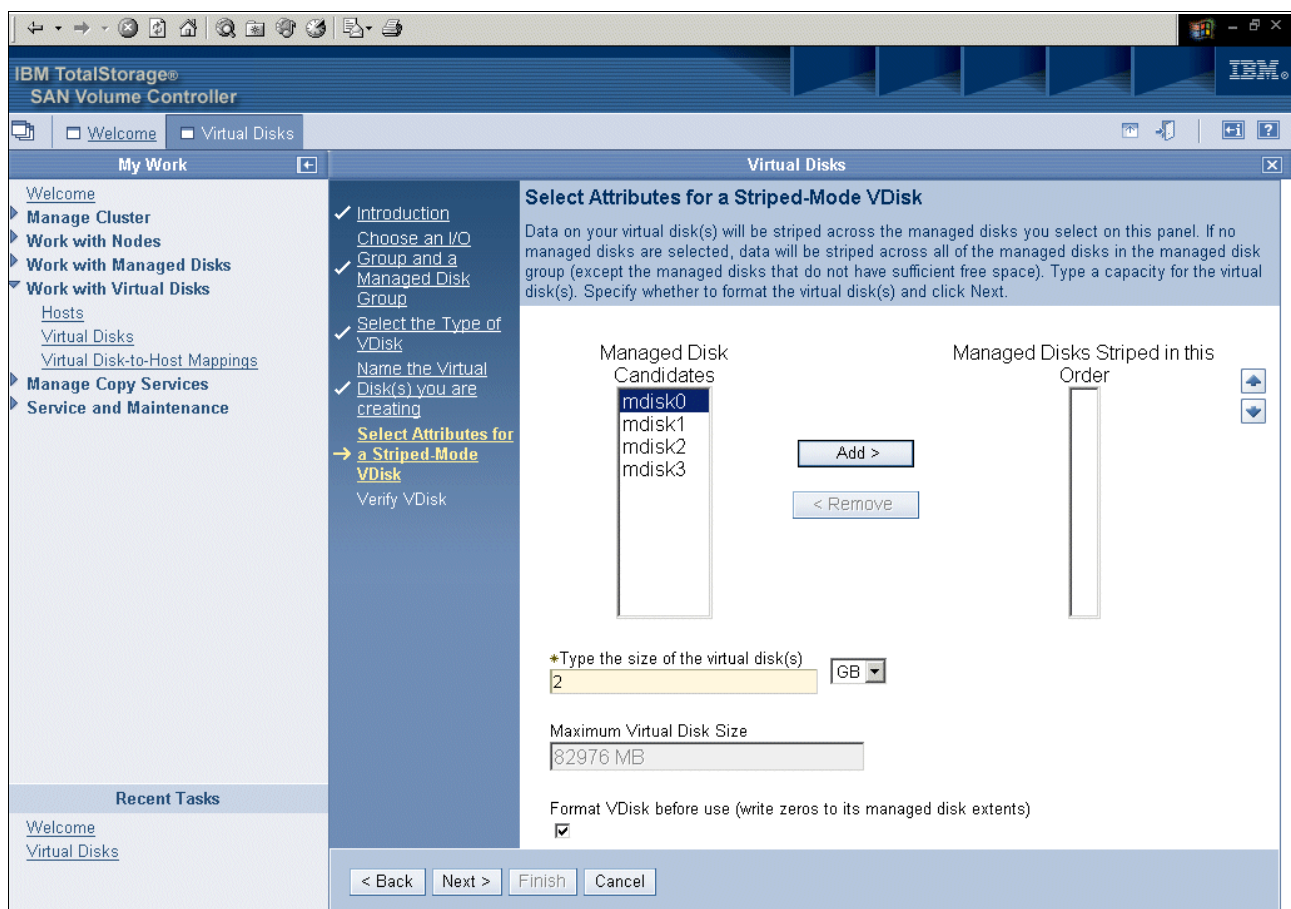

Figure 6-36 Select Attributes for a vDisk panel
8. On the Select Attributes for *modetype*-mode vDisk panel (*modetype* is the type of vDisk you selected in the previous step) as shown in Figure 6-36, follow these steps: